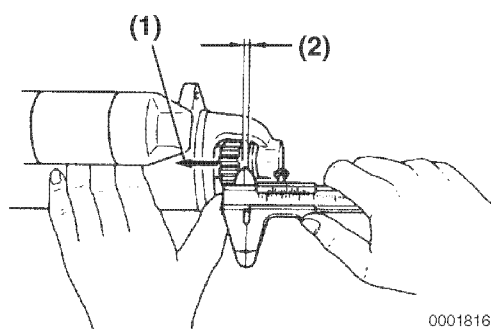
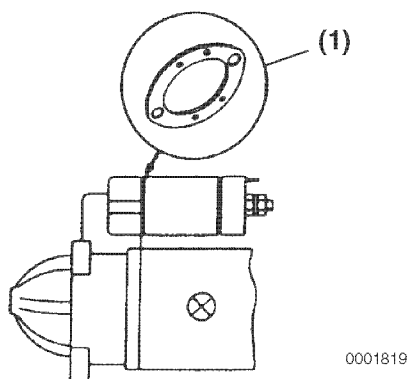

Figure 8-2
Figure 8-3
1. When the pinion is at the projected position, measure the gap (**Figure 8-2, (2)**) between pinion and pinion stop. This measurement should be made with the pinion pressed back lightly (**Figure 8-2, (1)**) to take up any play in engagement linkage. See *Specifications on page 8-5*.
2. If the measured dimension (**Figure 8-2, (2)**) is not within specifications, adjust the dust covers to obtain the standard range. Dust covers (**Figure 8-3, (1)**) are available in 0.020 in (0.5 mm) and 0.031 in. (0.8 mm) thicknesses.